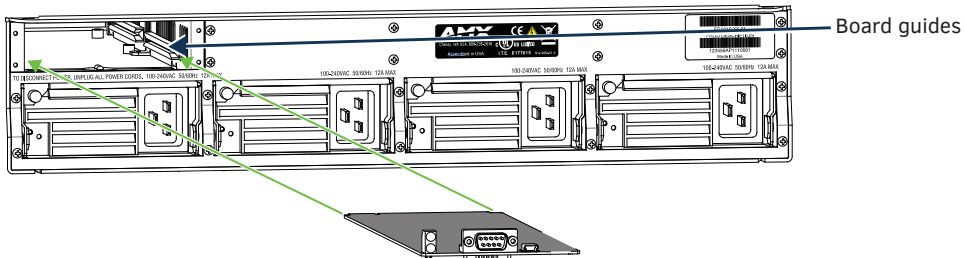

FIG. 40 Align board with board guides and slide in
7. Slowly slide the replacement CPU board into the empty slot, being careful to align it in the board guides along both sides of the slot (FIG. 40).